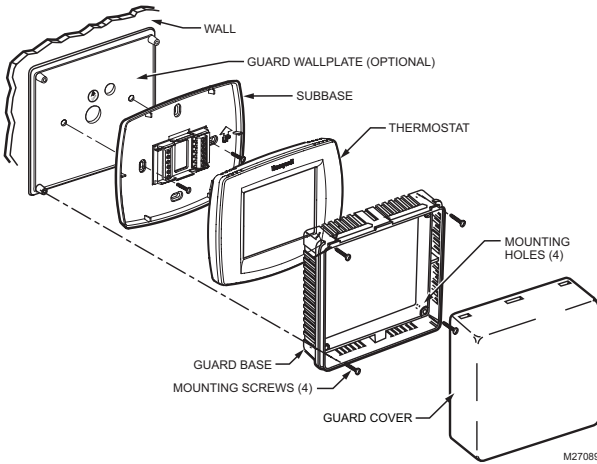

Fig. 1. Mount guard and thermostat to wall.
1. Mount guard base over existing thermostat or use optional guard wallplate (see Fig. 1 and Fig. 2).